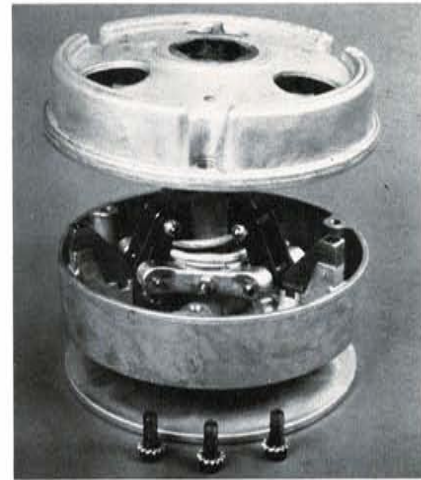

Fig. 2
3. Remove the three socket head cap screws that secure the outer cover housing to the movable sheave. CAUTION: The cover housing is under severe spring load and should be released slowly (Fig. 2).